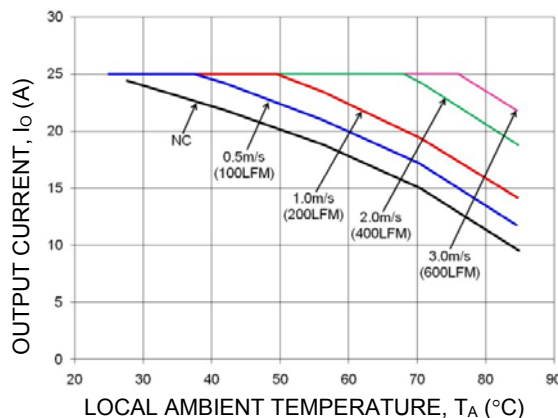

Figure 19. Output Current Derating for the Open Frame QBVW025A0B in the Transverse Orientation; Airflow Direction from Vin(+) to Vin(-); Vin = 48V.
The use of Figure 19 is shown in the following example:
Determine required airflow (V) (Use Figure 19: